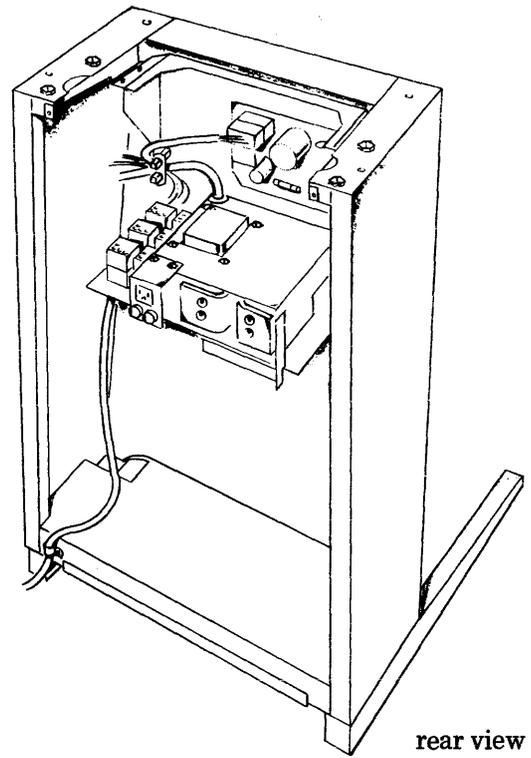

Figure 13 - ESU in Pedestal
4.01 Two electrical service units are available for the standard Model 38 Set. These two ESUs provide three types of electrical interface. The interfaces associated with each ESU are an integral part of the electrical assembly. The two ESU assemblies are described in the following paragraphs and a typical mounting for an ESU is shown in Figure 13.